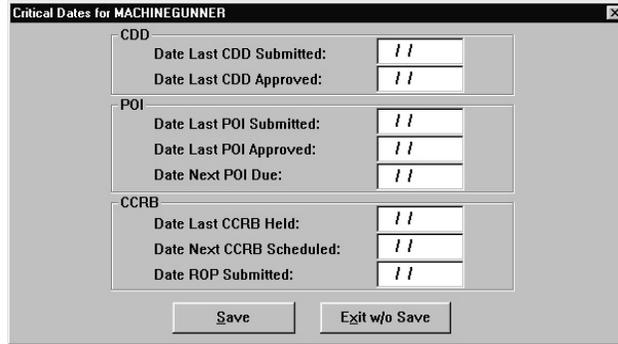

Figure 6-108. Critical Dates
- From the Maintenance drop-down menu, choose Course Statistics. The Critical Dates dialog box (Figure 6-108) opens.